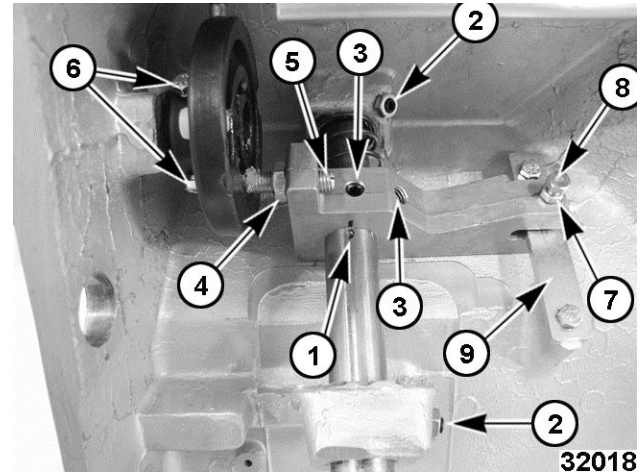

Fig. 41
6. Loosen the jam nut (7, Fig. 41).
7. Adjust screw (8, Fig. 41).
8. Lubricate plate (9, Fig. 41) if needed.
9. Tighten the jam nut (7, Fig. 41).
- A. Adjust the set screw (2, Fig. 41) tight enough that the index mechanism does not float inside the index cam, but loose enough that it does not bind in the slicer housing.